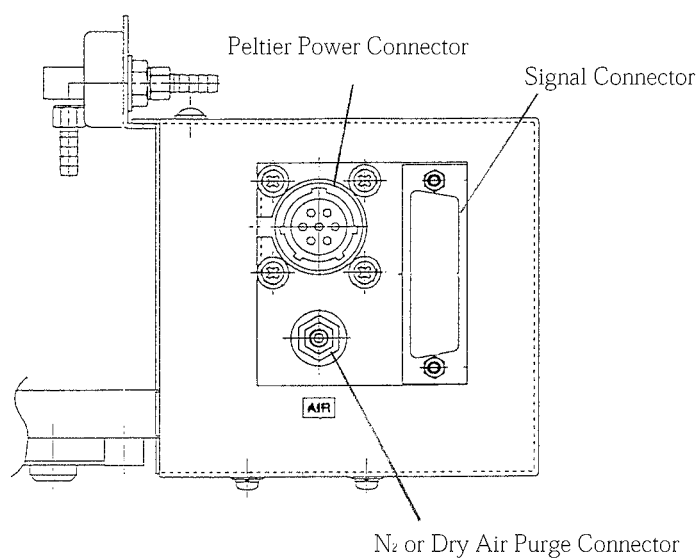

Fig.1.2 Method of Connecting Cables
- (6) Connect the round connector cable from the temperature controller to the round connector provided on the side of the sample compartment. (refer to Fig.1.2)
- (7) Connect the controller and the sample compartment with a signal cable (25-pin connector cable) offered as an accessory. (refer to Fig.1.2)
- (8) Connect the stirrer connector from the front of the sample compartment to the stirrer controller.
- (9) Set to ON the power switch of the temperature controller.
- (10) Connect the power cable of the stirrer controller.*